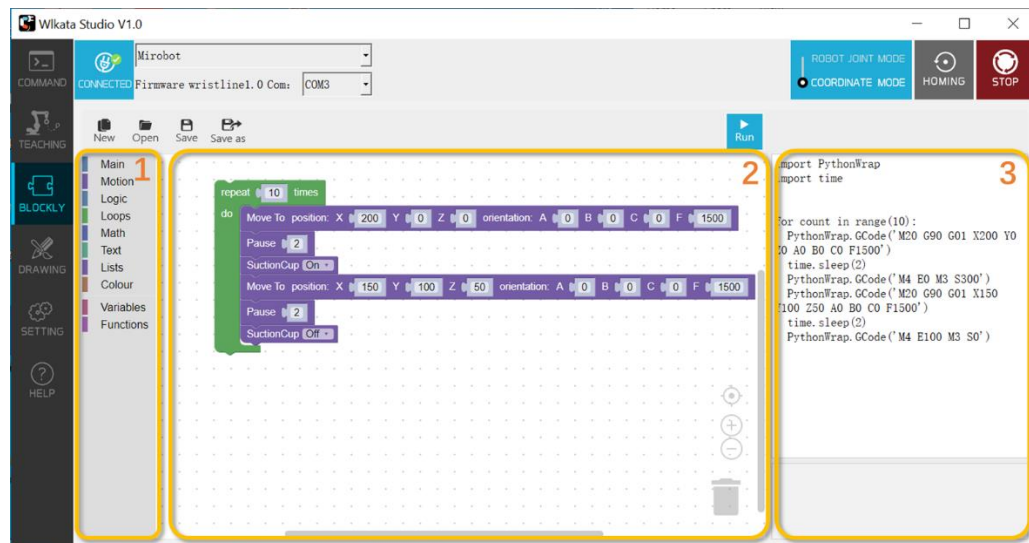

Figure 3.27 The Blockly graphic programming
(1) Click the **BLOCKLY** tab in the software interface to switch to Blockly page.
(2) Drag and drop the Blockly module from the Selection Panel 1 to the Programming Panel 2 to program. The Code Panel 3 would show the python codes of the Blockly module on the Programming Panel, as shown in Figure 3.27.